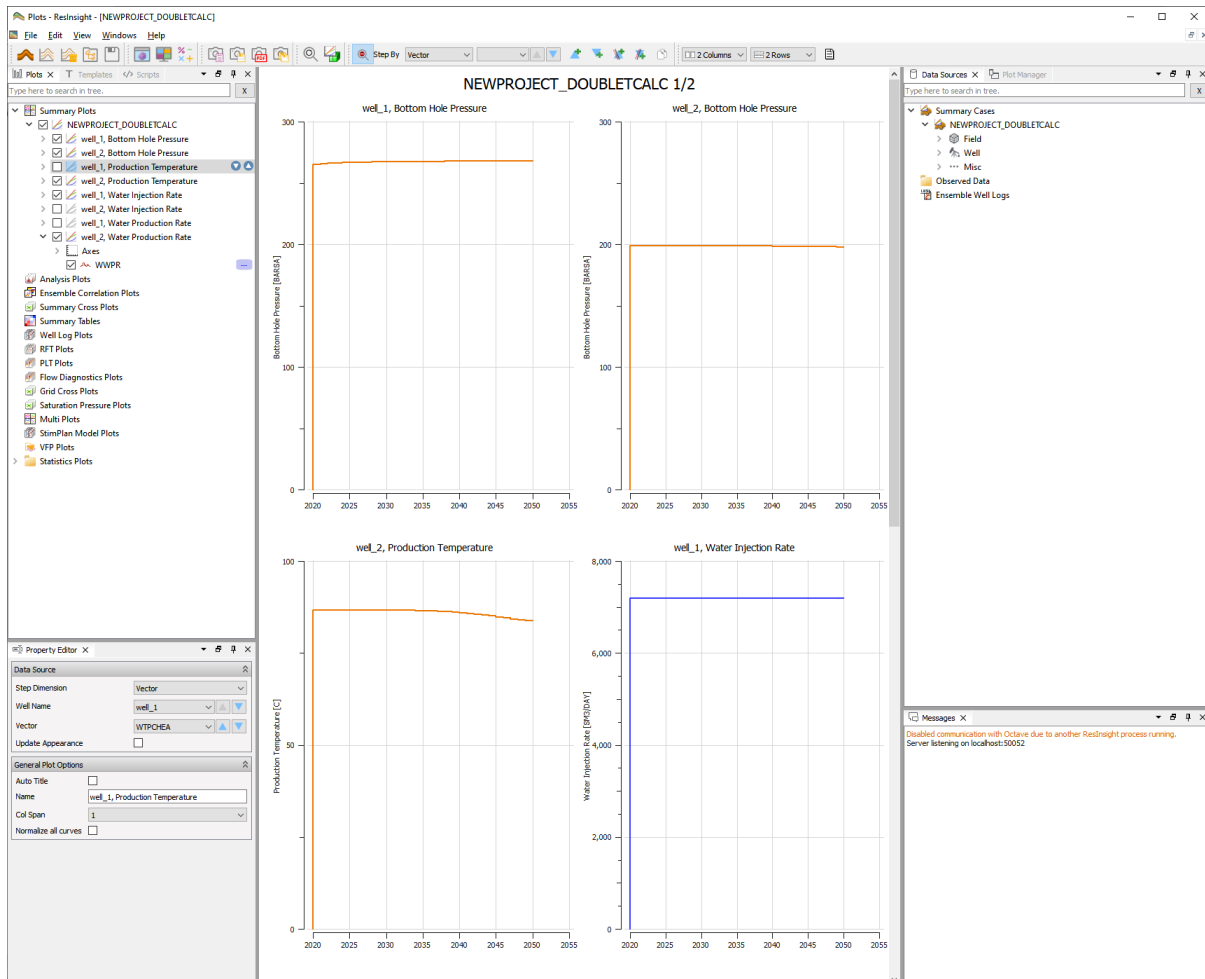

Figure 10: Example ResInsight ‘Plots’ window
- The 'Plots' window shows well pressure, temperature and flow rate with time. Expand the 'Summary Curves' to select which plots to display, see Figure 10. Right click on a curve gives the option to 'Show Plot Data'.